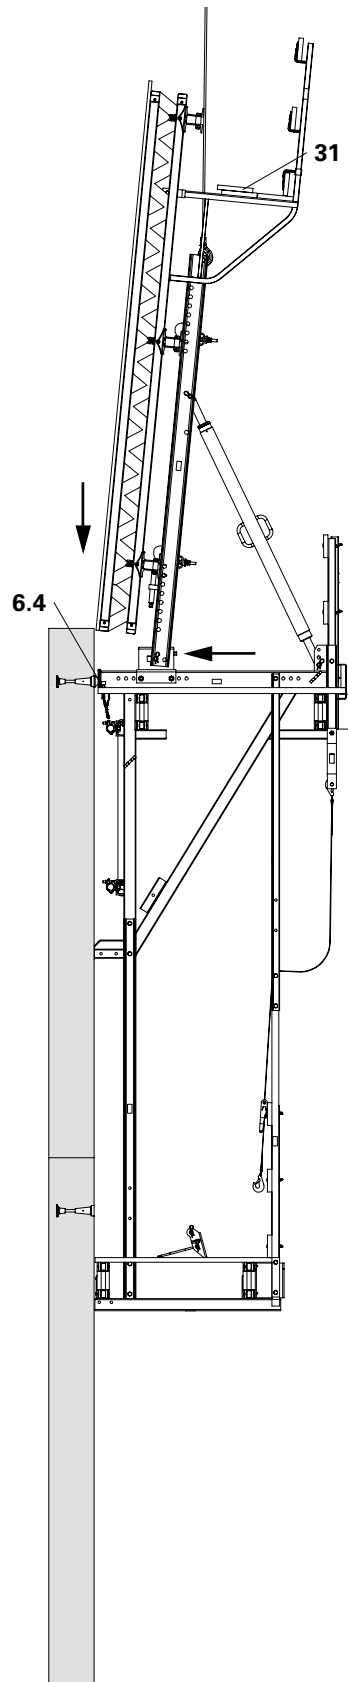

Fig. B4.04
2. Insert securing pins (6.4) under the Scaffold Mounting Ring M24 (45). (Fig. B4.04 – B4.04a)